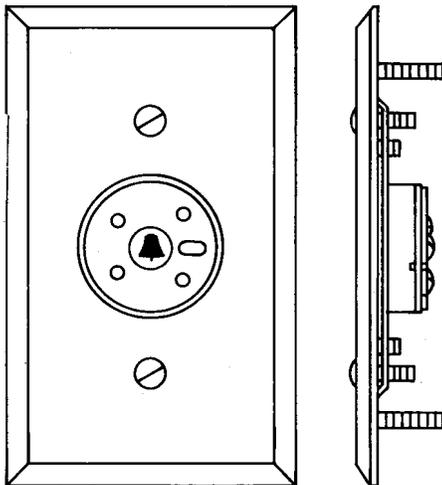

Fig. 1—550-Type Jack
2.01 550A-49, 550A-50, and 550A-54: These flush-type jacks (Fig. 1) consist of a 548A-type jack, a 43B bracket, and a flush-type coverplate arranged for mounting in a standard electrical outlet box. These 550A-type jacks are associated with the 283B-type plug and this plug can only be inserted in one position. These jacks are used with portable telephone sets having two, three, or four conductor mounting cords.